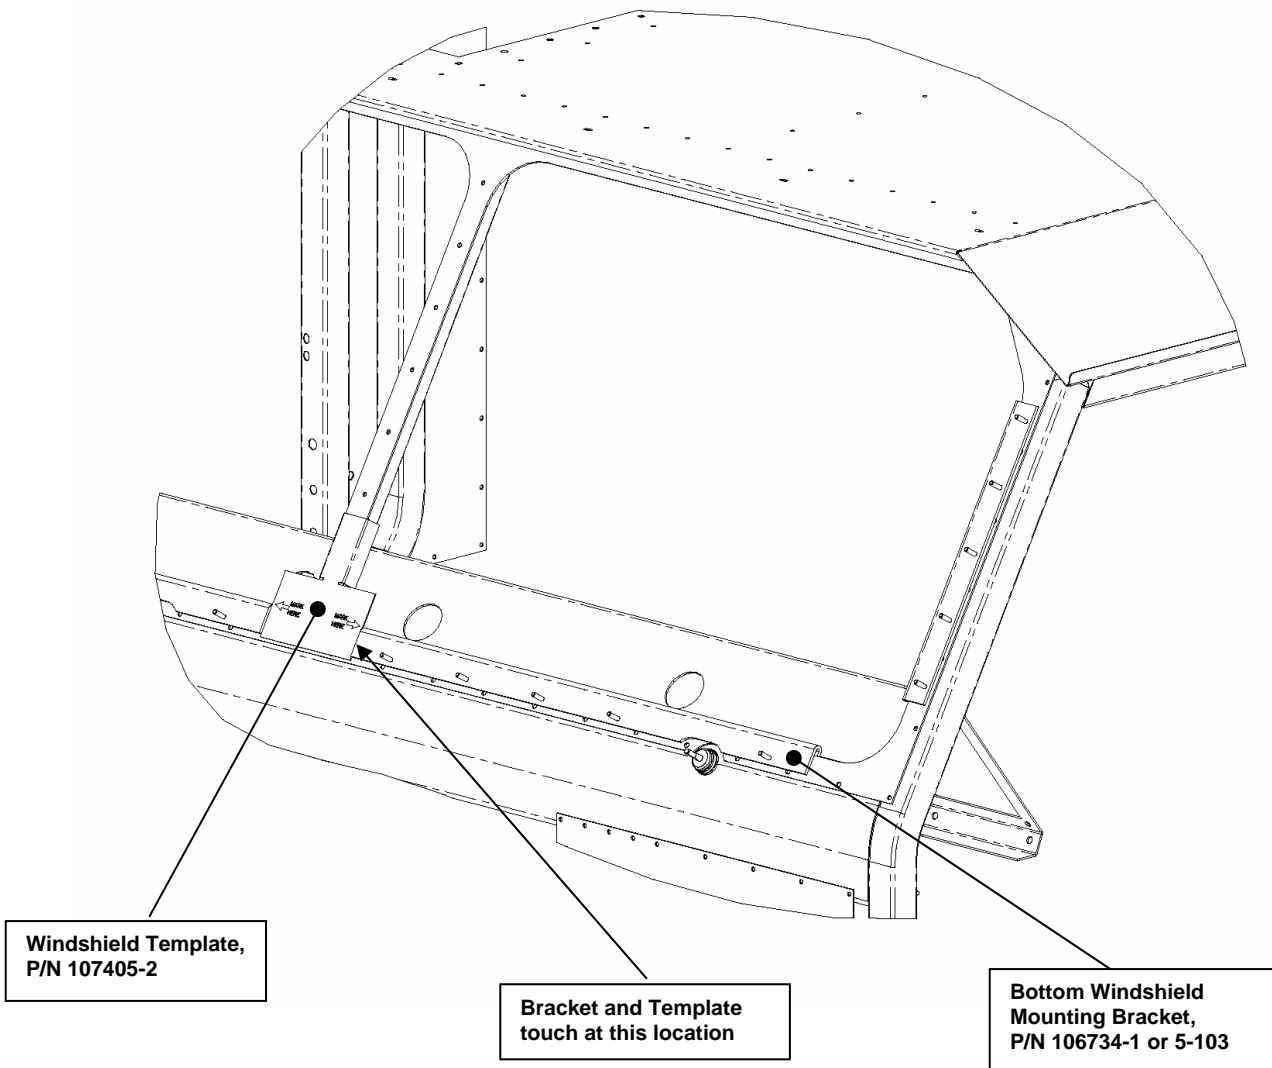

Figure 16. Windshield Bracket, Bottom Mounting.
- d. Place the Windshield Template (P/N 107405-3) on the vehicle, as shown in Figure 16. Place the Windshield Bracket (P/N 106734-1 or -5-103) against the Windshield Template, as shown in Figure 16. Tighten the bolts on both ends of the Windshield Bracket. Do not tighten all of the bolts at this time, as adjustment may be required in the next steps. Using the same Template, install the other Windshield Bracket on the opposite side of the window frame. Remove the Template from the vehicle when complete.